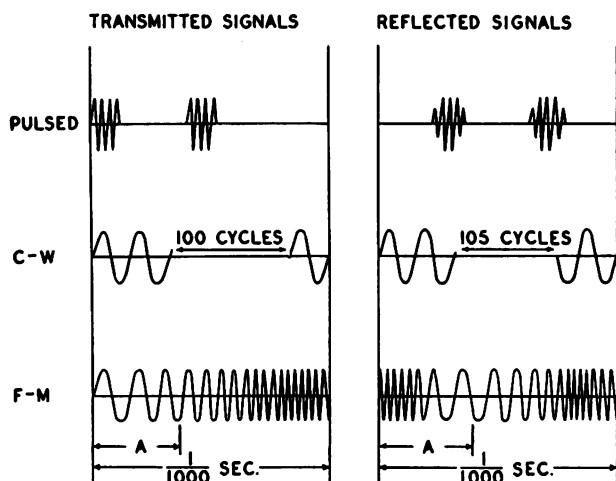

Figure 3A.
● The waveforms shown in figure 3A are graphs of the voltage variations during a chosen time interval for equipment like the missile radars discussed in the text-book. The signals are not intended to duplicate those produced by real equipment, but only to demonstrate the principles used in such equipment.
4. What is the pulse repetition frequency of the radar signal shown in figure 3A?
5. The frequency of the reflected CW signal shown in figure 3A differs from the frequency of the transmitted signal. This indicates that the range of the target is changing. What is the size of this frequency difference?
6. The frequency of the reflected FM signal shown in figure 3A is much higher than the transmitted signal during any such interval as A. What does the frequency difference indicate?